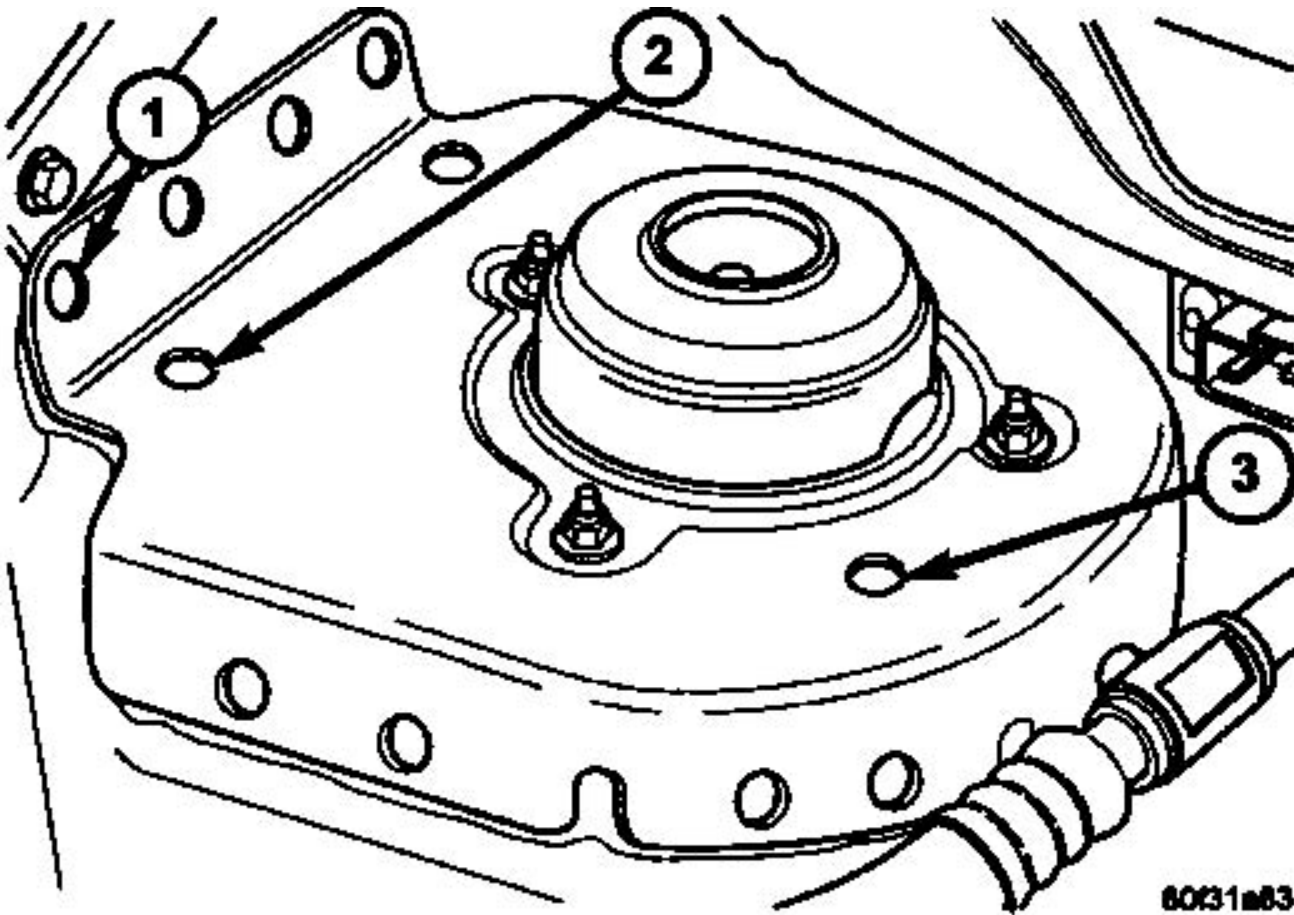

Figure 9. Cap with the 3 holes to be drilled for self-tapping screws and the 7 holes for rivets
- B16. Using drill motor and. 7/32" drill bit, drill the 3 holes into upper strut tower and the inner load path beam through the three guide holes in the new cap (**Fig. 9**).